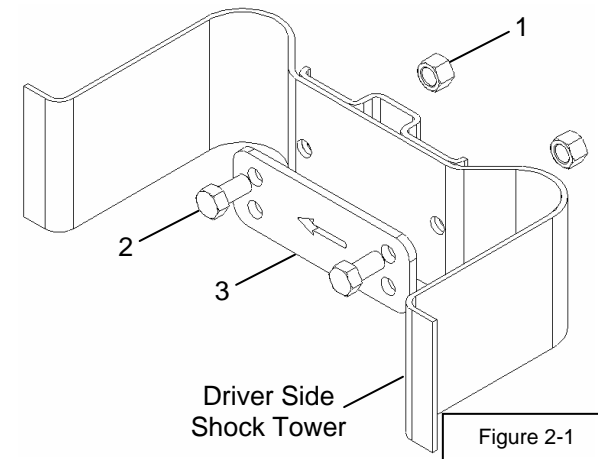

Figure 2-1
- 1) Bolt lowering template (Item 1), to shock tower with 1/2" bolts, not provided. (Figure 2-1)